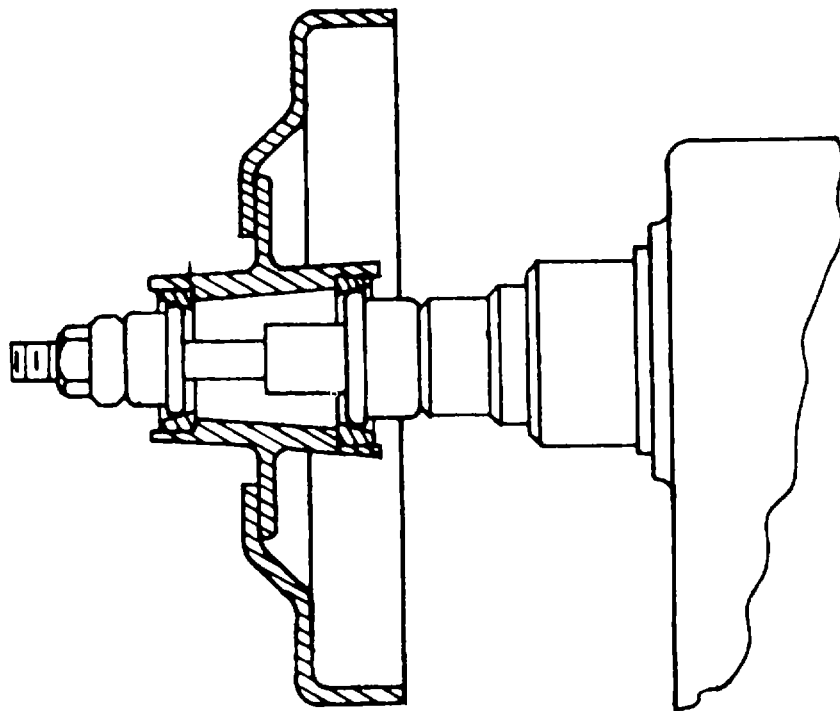

Fig. 1-5 - TAPERED BEARING EQUIPPED HUB
- d. -Tapered Bearing Equipped Hub. Select the proper Radii Cone to fit into the inner and outer bearing cups. The Radius of Radii Cone selected should seat somewhere on cup bearing surface. In most cases, this will be approximately in the center of bearing cup. Place Radii Cone for inner bearing cup on Arbor, followed by hub and Radii Cone for outer bearing cup. Place additional Spacers on Arbor so that when the Arbor Nut on the end of the Arbor is tightened the two Radii Cones will draw up securely to the bearing cups. Make sure that the Radii Cones and Bearing Cups are clean before mounting. (See Figure 1-5)